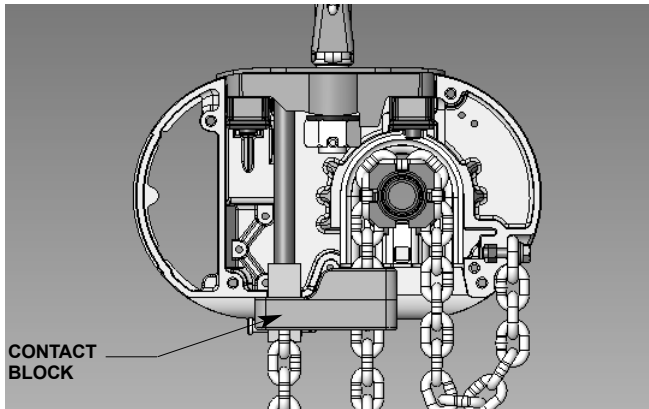

Figure 8. Contact Block Used on Models R, R-2, RR and RR-2
2. On Models E, E-2, H and H-2, insert the last link of the load chain into the dead end block (2) and secure it with the dead end pin, washer and cotter pin furnished with the suspension. Remove the clip (1) by inserting a screw driver blade through a chain link and levering against the bottom of the hoist.
3. On Models R, R-2, RR and RR-2, remove the clip (1) by inserting a screw driver blade through a chain link and levering against the bottom of the hoist. Slide the contact block up the chain until it is against the bottom of the hoist and the dead end block is projecting through the square opening in the bottom of the block. Insert the last link of the load chain, making sure there are no twists between the hook block and the dead end block, into the dead end block. Push the contact block up slightly and secure the load chain to the dead end block using the dead end pin, washer and cotter pin furnished with the suspension. The dead end pin also supports the contact block (See Figure 8)